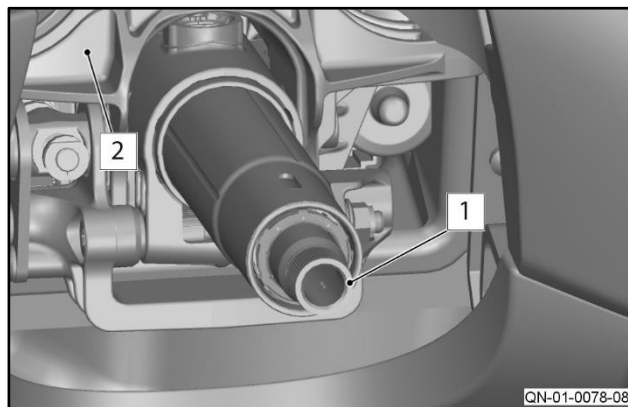

Figure 10
6. Use a multi-meter to measure the resistance between the inner column (1) and the steering column casing (2) (refer to Figure 10).